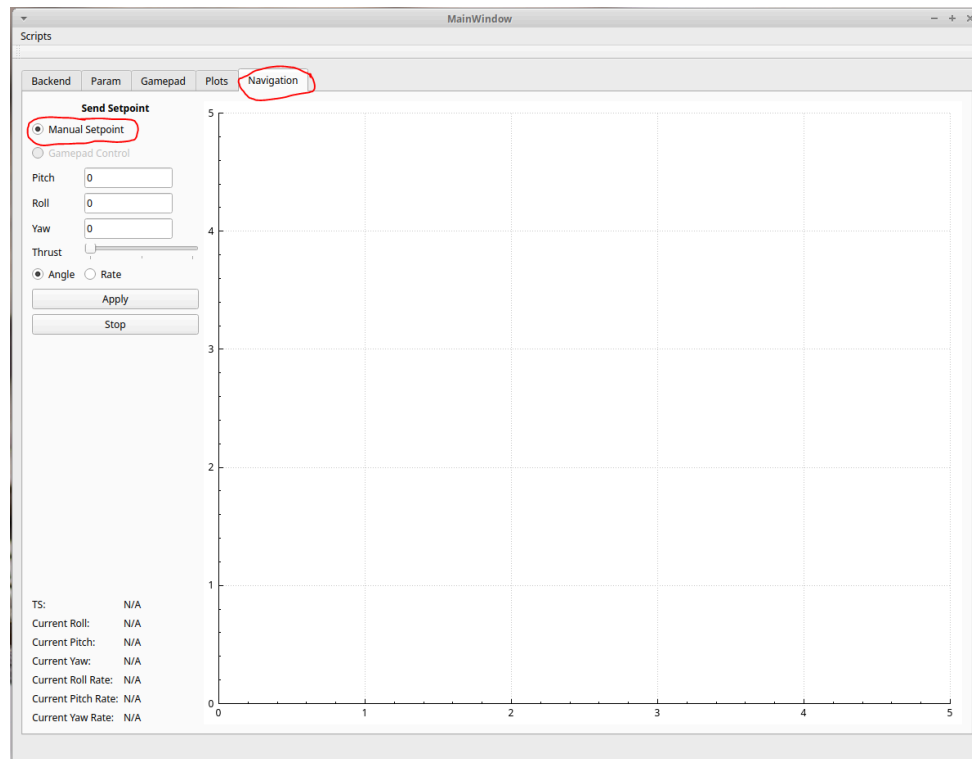

Figure 7: Manual Setpoints
- Navigate to the control tab, as shown in Figure 7.